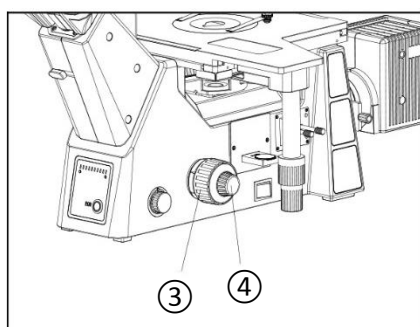
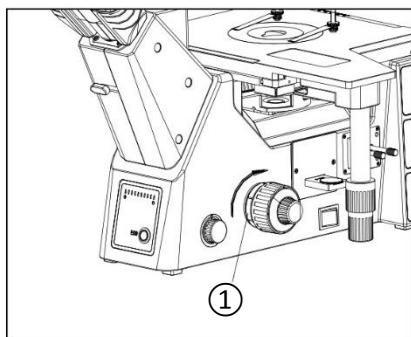

Fig 14
Fig. 15
### Adjusting the Focusing Tension (Fig. 15)
If the feel is very heavy when focusing with the focusing knobs (Fig. 14, ③ & ④), or the specimen leaves the focus plane after focusing, adjust the tension with the tension adjustment ring ① (Fig. 15).